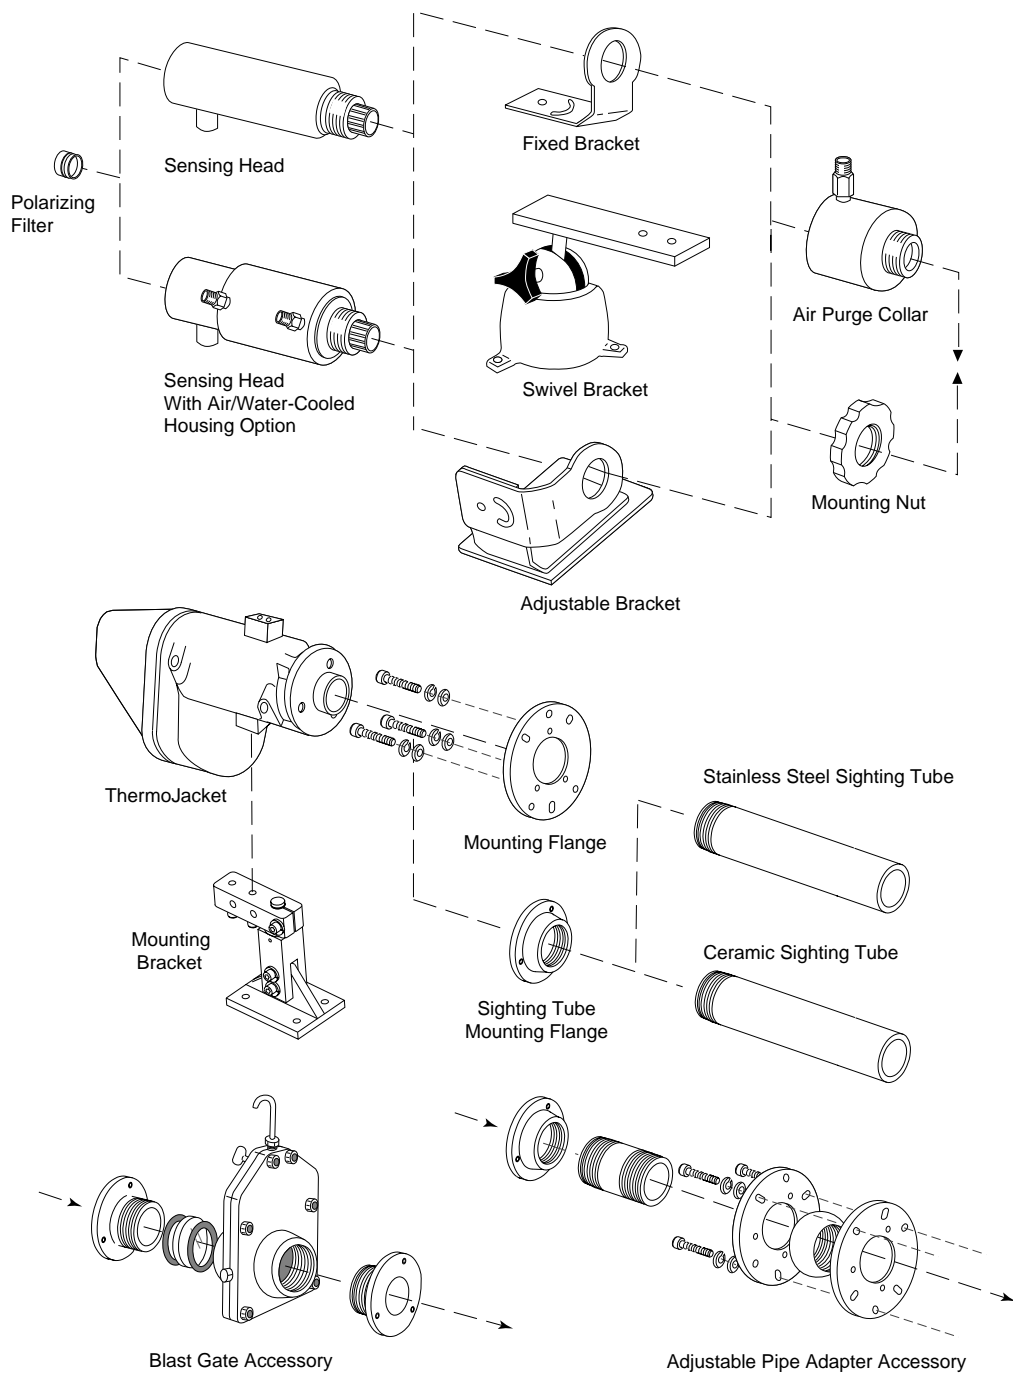

Figure 1-1: Accessories and Options
A full range of accessories for various applications and industrial environments are available (see Figure 1-1). Accessories include items that may be ordered at any time and added on-site. These include the following:
Also available is a ThermoJacket™ (see Figure 1-1) and the following accessories:
- Air/water-cooled housing (see Figure 1-1)